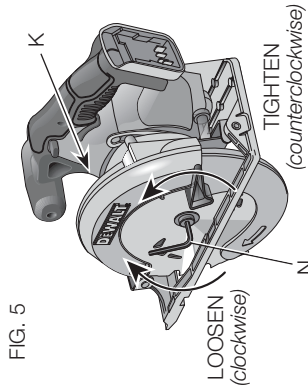

FIG. 5
3. Place outer clamp washer (P) on saw spindle with the large flat surface against the blade with beveled side facing out.
4. Thread blade clamping screw (H) into saw spindle by hand (screw has left-hand threads and must be turned counterclockwise to tighten).
5. Depress the blade lock button (K) while turning the saw spindle with the blade wrench (N) until the blade lock engages and the blade stops rotating (Fig. 5).